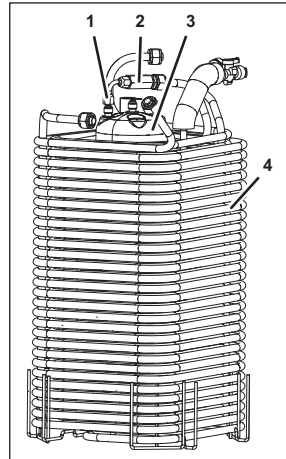

Figure 83
13. Lift the cooling coil basket (Figure 83/4) with carbonator tank (Figure 83/3) out of the unit.
14. Disconnect the connecting line from the non-return valve of the solenoid valve (Figure 83/2) to the carbonator tank (Figure 83/3) from the coupling (Figure 83/1).
17. Lift the carbonator tank (Figure 83/3) up and out of the cooling coil basket (Figure 83/4).
18. Position the new carbonator tank (Figure 83/3) within the cooling coil basket (Figure 83/4).
19. Attach the carbonator tank (Figure 83/3) to the cooling coil basket (Figure 83/4) using a cable tie.
20. Make sure the carbonator tank (Figure 83/3) is firmly placed against the cooling coils.
23. Attach the connecting line from the non-return valve of the solenoid valve (Figure 83/2) to the carbonator tank (Figure 83/3) to the coupling (Figure 83/1).
24. Position the cooling coil basket (Figure 83/4) with carbonator tank (Figure 83/3) within the unit.